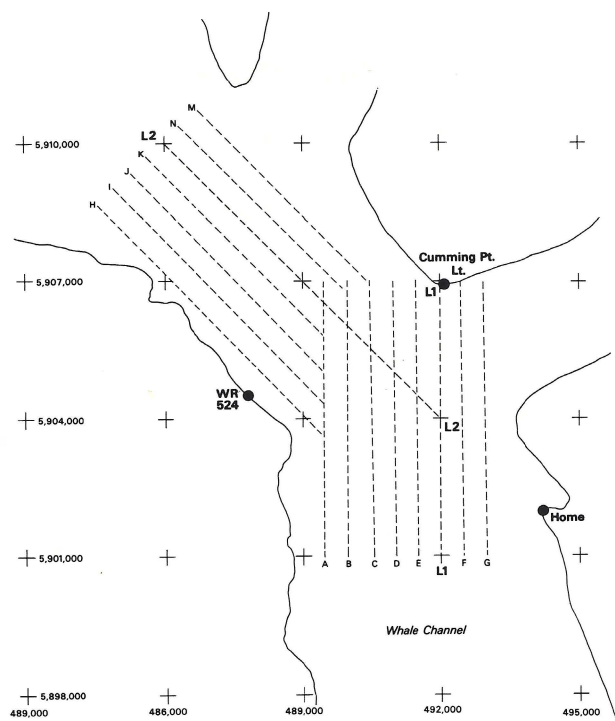

Fig. 3 Configuration of Sounding Lines
4. Co-ordinates of start and end of basic survey lines to be run. Here the computing ability of the MRDP is a great time saver as many parallel offsets may be run from one defined line, so the co-ordinates of each line actually covering the work area don't have to be determined, just one line with so many parallel offsets (Figure 3).
To help explain the use of this system the actual set up used on a side scan sonar survey in Whale Channel (approaches to Kitimat, B.C.) is shown. Figure 3 shows the area and the survey stations used, along with lines that were run. Transponders were placed at stations HOME, WR 524 and on Cumming Point Light. Two basic lines (marked L1 and L2) were easily defined by start and finish points on even grid intersections, Line 1 along Easting 492 000 (X co-ordinate) from Northing 5 901 000 to 5 907 000 (Y co-ordinates) and Line 2, 492 000 and 5 904 000 to 486 000 and 5 910 000. To avoid bad fixes along the baseline various combinations of the transponders were selected. Offsets A, B, C, D and E were run on HOME and the light. Line 1 and offsets F and G on the light and WR 524. The south-easterly portion of offsets H, I, J and K were run on HOME and the light, and the north-westerly portion on WR 524 and the light. Line 2 and offsets L and M were run on WR 524 and the light. To switch from one pair of transponders to the next or to change direction of lines is very easily done with this system. At the start of a day all line and site data is recorded in the MRDP memory (up to 16 sites and 10 lines can be stored) so that at the end of any line, the "Escape" button is pushed on the terminal, the system enters the Pause Mode, and a new line or sites are selected in a matter of seconds. Details on these procedures are well documented in the Operation and Installation Manual supplied with the system and, after a couple of days use, the average hydrographer will rarely need to refer to the manual to manipulate the system to its fullest.